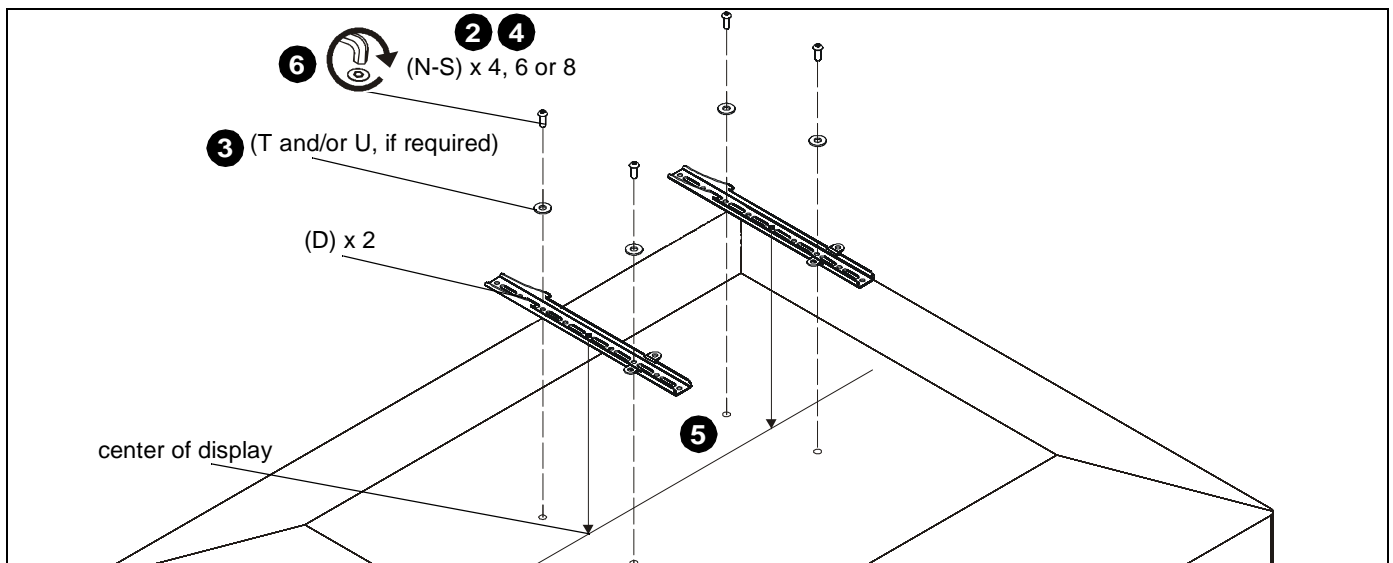

Figure 6
- Select screw *diameter* by examining hardware (M-R) (8mm, 6mm, 5mm, or 4mm) and comparing with mounting holes on display. (See Figure 6)
5. Place vertical interface brackets (D) on display, ensuring: (See Figure 6)
- Center of brackets (D) are as close to the center of the back of display as possible after being installed. Center of bracket is indicated by the diamond-shaped hole.
6. Install selected screws through washers (T and/or U, if required) vertical interface bracket (D) and into display mounting holes. (See Figure 6)